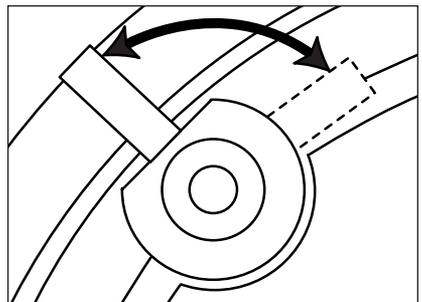

Figure 17 Tightening the mounting “dogs”
6. The DS6.3, DS6.5 and DS6.7 feature a separate frame assembly which installs with four clamps or mounting “dogs” which hold the frame in place. The dogs are tightened via four front-baffle screws. Tighten the dogs by turning the screws clockwise. **DO NOT OVERTIGHTEN THESE SCREWS.** Over-tightening the clamps may make the grille difficult to install. (**See Figure 17**).